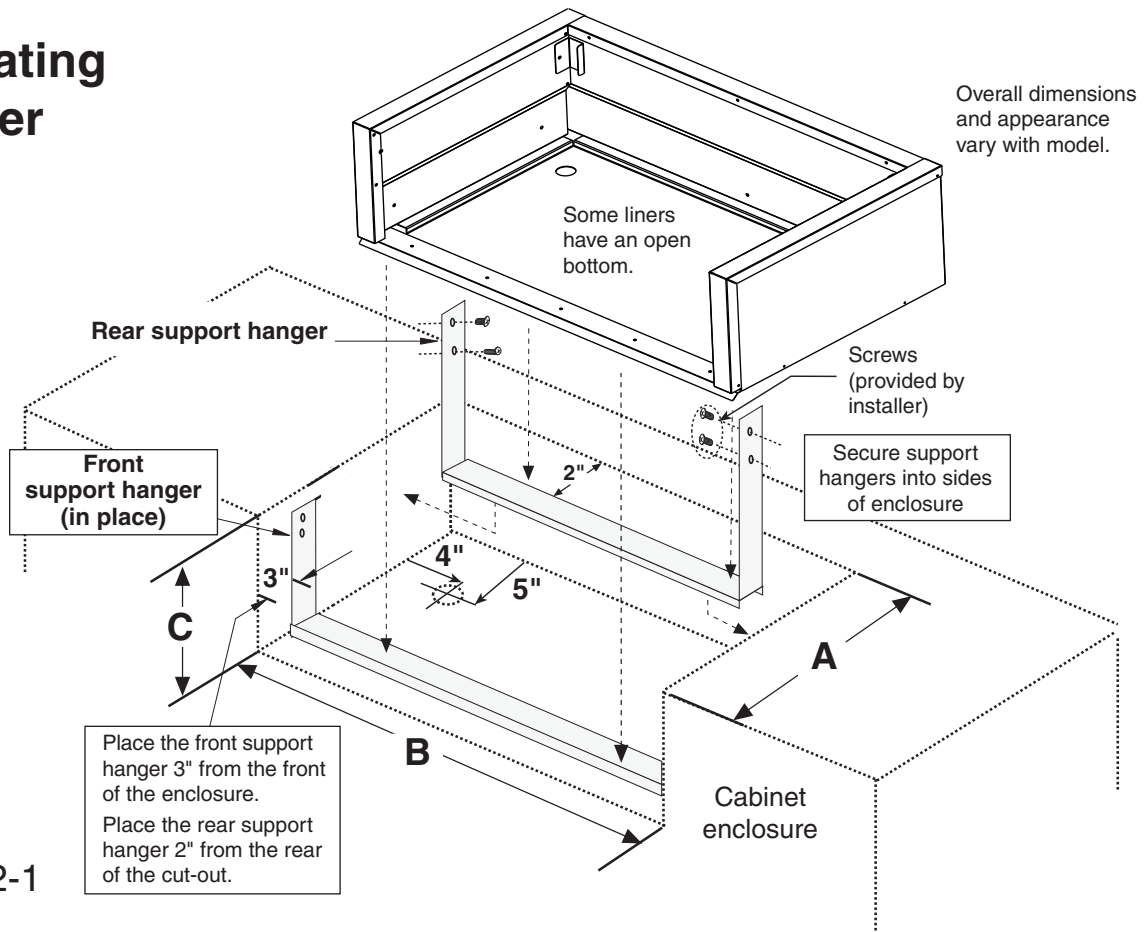

Fig. 2-1
1. Position the rear support hanger 2" from the back of the cut-out and with the horizontal surface of the hanger flush with the bottom of the cut out as shown in Fig. 2-1. Fasten securely in place with flat head screws (not provided) into the sides on the enclosure.
3. Place the insulating liner on top of the support hangers (as shown in Fig. 2-1). Place the insulating liner tightly against the back of the cabinet opening.
Dimensions shown (A, B, and C) are for cabinet cut-out dimensions for the liner. The dimensions do not include additional allowance for counter tops or cabinet facings (see Fig. 2-1).